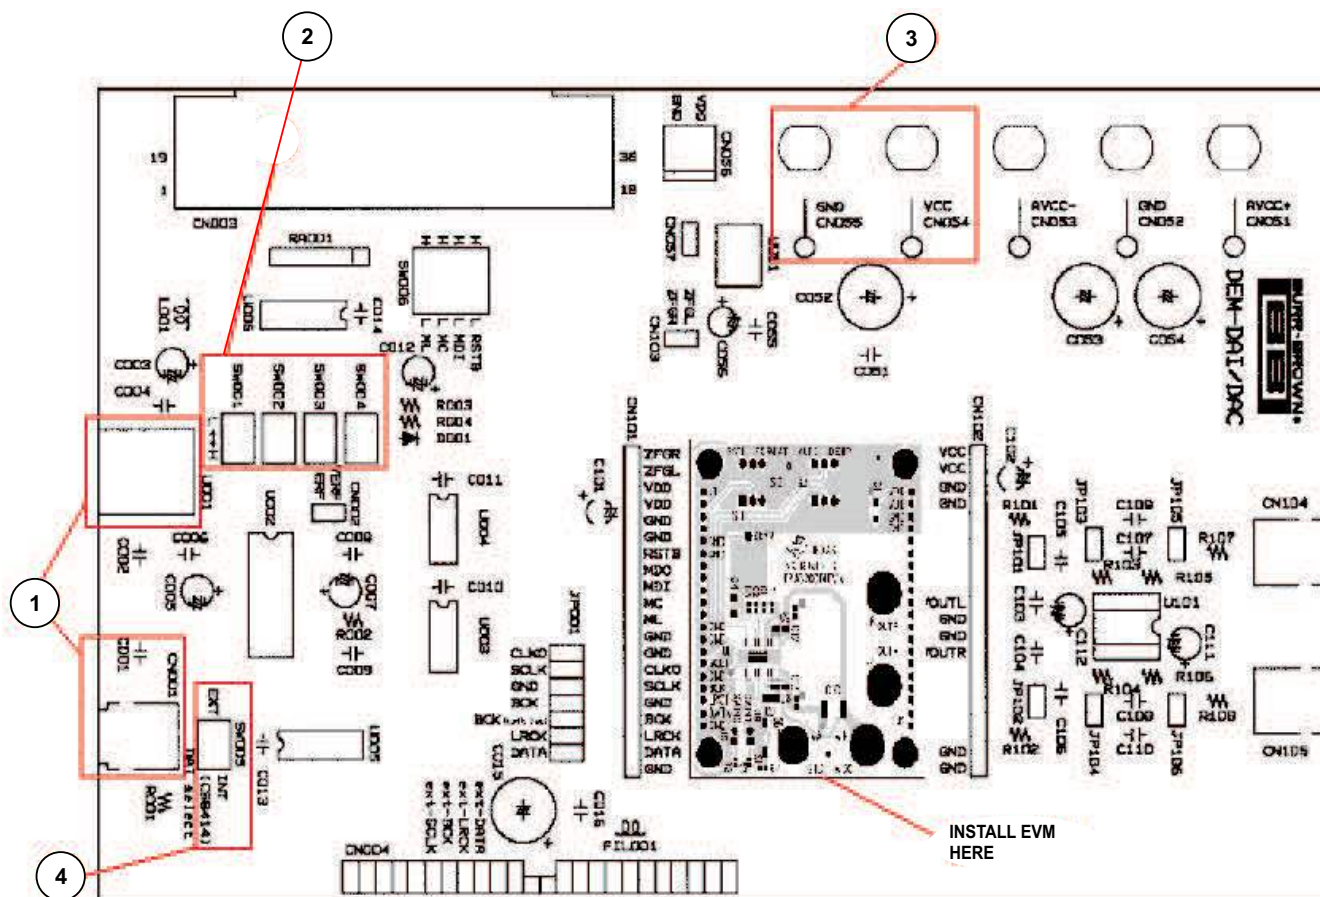

Figure 3. DEM-DAI/DAC Evaluation Platform
To use the TPA3200D1EVM with a DEM-DAI/DAC platform, follow these steps. The DEM-DAI/DAC platform consists of a 96-kHz digital audio receiver that accepts S/PDIF and optical inputs for direct interface to a digital audio source such as an audio precision or component CD/DVD player. This platform can be used to evaluate the audio performance of the TPA3200D1EVM using a measurement system such as the Audio Precision system. Figure 3 is referenced throughout this section. See the DEM-DAI1742 document (SBAU034) for detailed information on the operation of this board.
1. Install the EVM into the DEM-DAI/DAC platform in the location at the center of the platform. The header labeled **J1** should be attached to **CN101** on the DEM platform. The header labeled **J2** should be attached to **CN102** on the DEM platform. See Figure 3 for proper alignment.
2. Connect a CD/DVD player or audio precision via a single RCA cable from the coaxial (digital) output to **CN001** or use an optical cable to connect from the optical (digital) output to **U001** on the DEM platform. See Note 1 in Figure 3.
3. Set switches **SW001–SW003** on the DEM platform according to Table 3. Settings of this switch need to match the **FORMAT** selection on the TPA3200D1EVM. Other settings of **SW001–SW003** are not supported by the TPA3200D1EVM. See Note 2 in Figure 3.
- Set switch **SW005** to **INT (CS8414)**. See Note 4 in Figure 3.
- Connect a 5-V supply to **CN054** and **CN055** on the DEM-DAI/DAC platform. See Note 3 in the Figure 3. **CN054** should be connected to the positive and **CN055** connected to the negative side of the supply.